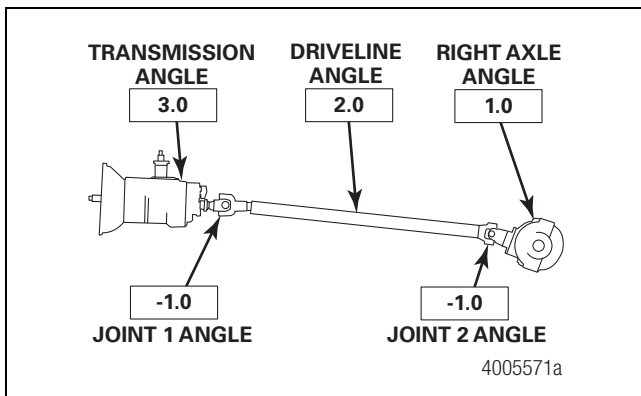

Figure 13.33
- Measure and record the side view angles. Refer to the procedure in this section. Figure 13.33 is shown as a reference.